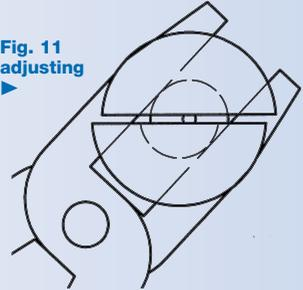
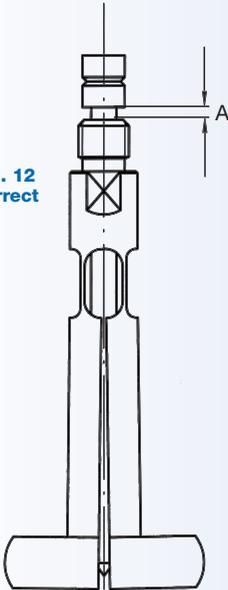
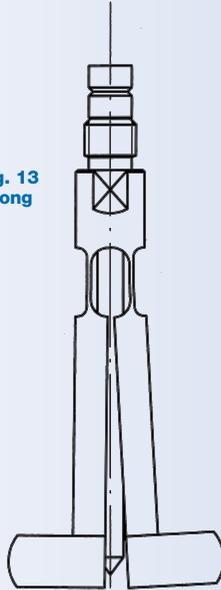

Fig. 12
Fig. 13
Fig. 14
#### 2. Axial bending: (Fig. 12 - 15)
a) Distance "A" (Fig.12) of probe-head to probe-threading should be as follows when needle is loosely introduced:
b) Probe legs should obviously be symmetrical to probe axis. Fig. 12 and 15 = correct, Fig. 13 = wrong. Probe legs that are bent (Fig. 13) or bent together (Fig. 14) can be adjusted by careful bending of the legs. For this probe has to be held at threaded piece.